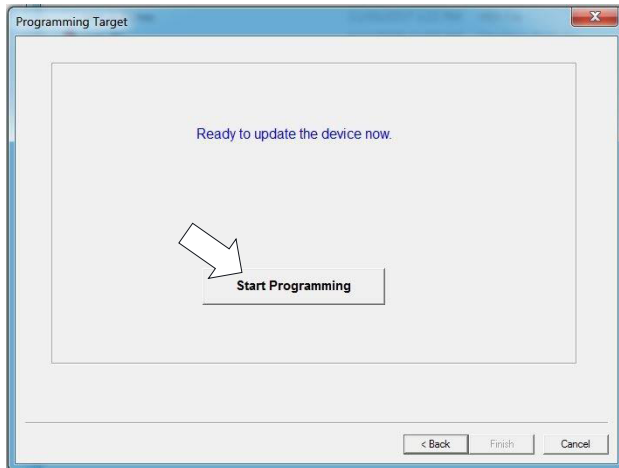
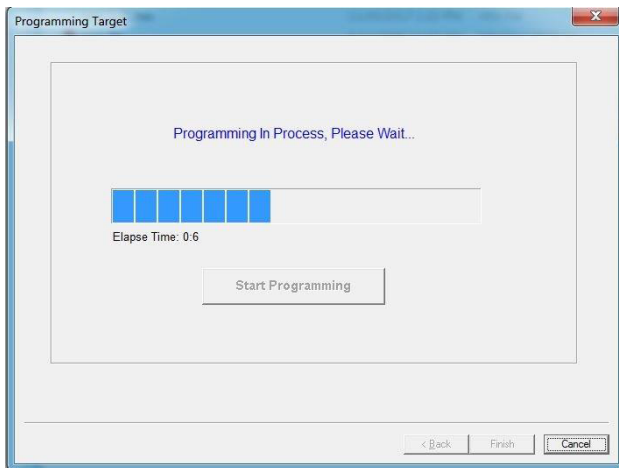

Figure 6 – Programming Target Screen
Figure 7 – Programming in Process Screen
9. The Programming Target screen (shown in Figure 6) is the next screen to appear. *Select the “Start Programming” button.* Wait for the programming to complete. “Programming in Process, Please Wait” will appear on the screen while the program is updating. *See Figure 7.*